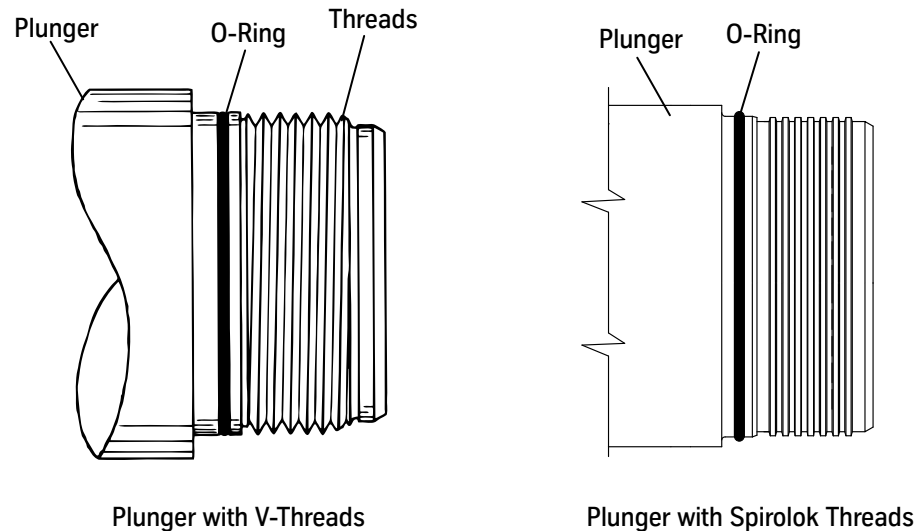

Figure 14 - O-Ring on Plunger Threads
7. Lubricate the O-ring with oil, pass it over the plunger threads, and mount the O-ring in the O-ring groove. See Figure 14 on page 21.